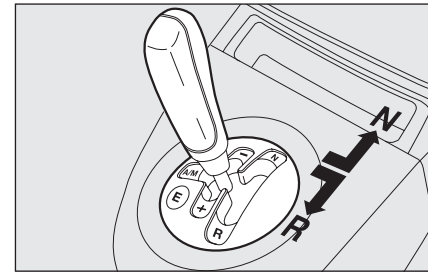
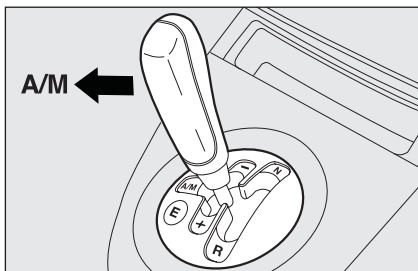

fig. 2
fig. 3
- Push the gear lever towards **+** **fig. 1** to engage first gear (if starting from **N** or **R** simply move the lever to the central position) or **R** **fig. 2** to engage reverse.
- Push the gear lever to **A/M** fig. 3 to engage the automatic mode or to **R**-fig. 2 to engage reverse.
The three stable positions correspond to neutral **N**-fig. 2, reverse **R**-fig. 2 and the central position between the unstable positions (+) and (-) fig. 1.
The unstable positions, i.e. positions left by the lever as soon as it is released, are upshift request (+), downshift request (-) and the automatic downshift mode request (**A/M**) fig. 3.
To switch the automatic operation (**AUTO**) on/off, push the lever to the **A/M fig. 3** position; activation will be signalled by the display of the word **AUTO fig. 5** and the gear engaged.
- with the lever in (N) or (R) Fig. 2 move the lever to the middle position and then towards + fig. 1;
- Shift the lever to (R) fig. 2;